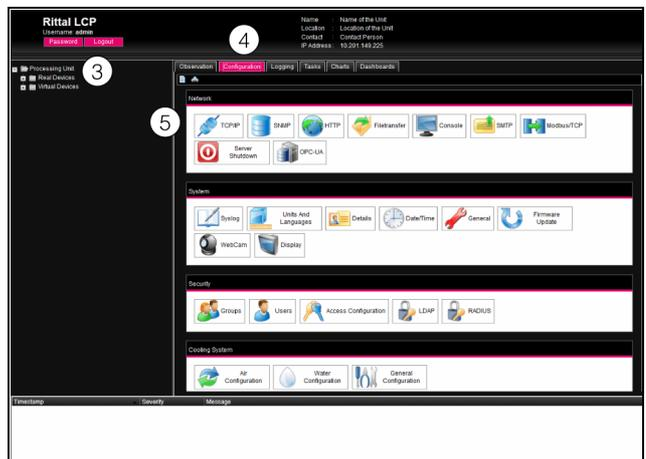

Fig. 90: Adjusting the TCP/IP settings
The overview window for the device will appear (fig. 90).
- In the left-hand section of the overview window (navigation area), click on the **Processing Unit** entry (fig. 90, item 3) and in the right-hand section (configuration area), click on the **Configuration** tab (fig. 90, item 4).
- In the group box Network, click on the TCP/IP button (fig. 90, item 5).